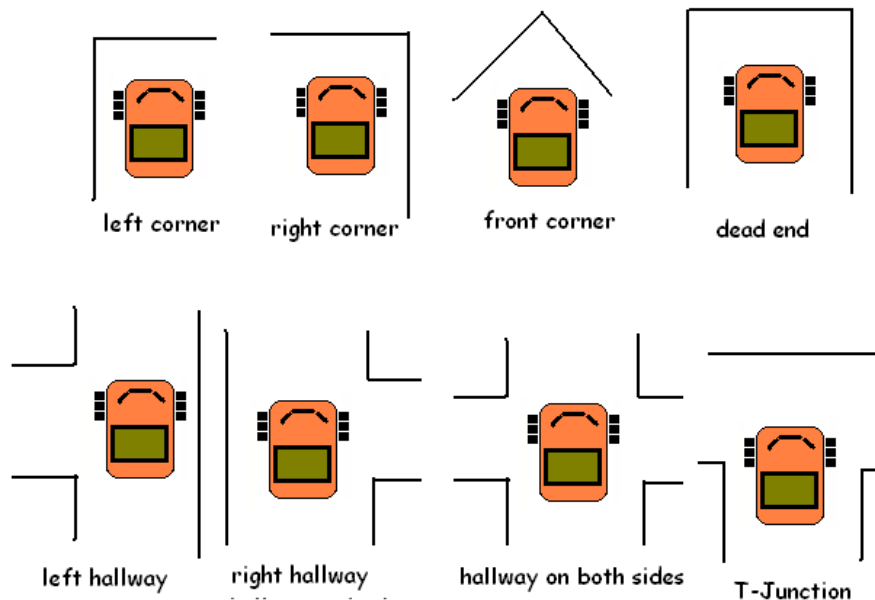

Figure 16: Distinctive Places
2. It would be advisable to use a combination of the IR and sonar for sensor redundancy to identify these locations in the world. There will be some sensor error, this is a standard problem in mobile robot navigation and the program should be designed in such a way to minimize the effect of the error. For example, average 5 or 10 readings and filter out spurious readings. Figure 16 provides descriptions of the possible world landmarks.